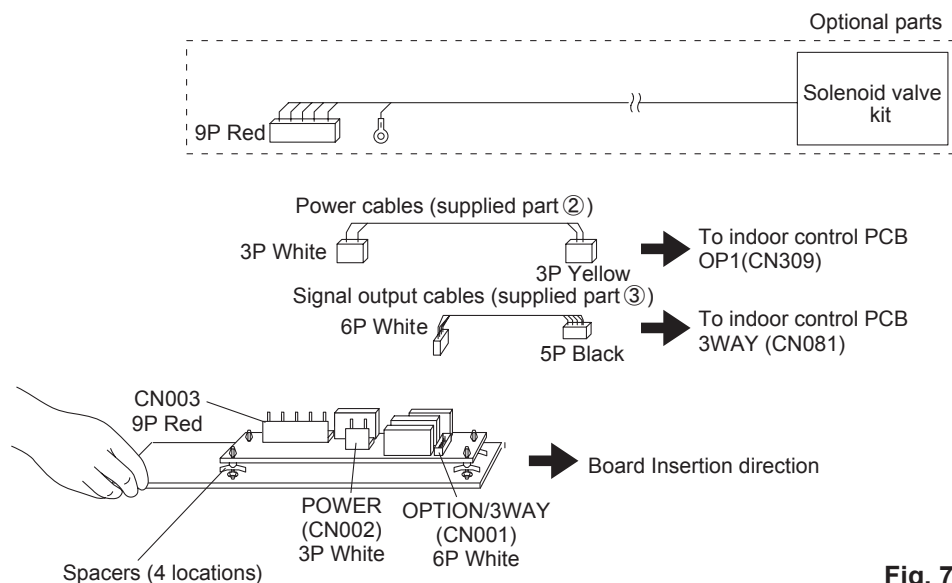

Fig. 7-9
- Connect the solenoid valve kit ground wire to the indoor unit ground wire mounting position. Also connect the 9P connector (red) of the solenoid valve kit to the CN003 9P connector (red) on the solenoid valve control PCB. (Figs.7-9, 10)
- Connect the 3P connector (white) of the power cables (supplied part ②) to the CN002 POWER connector (white) on the solenoid valve control PCB (supplied part ①) (Fig.7-9)
- Connect the 6P connector (white) of the signal output cables (supplied part ③) to the CN001 3WAY connector (white) on the solenoid valve control PCB.(Fig.7-9)
- * Pay attention to the insertion direction of the solenoid valve control PCB. (Fig.7-9)